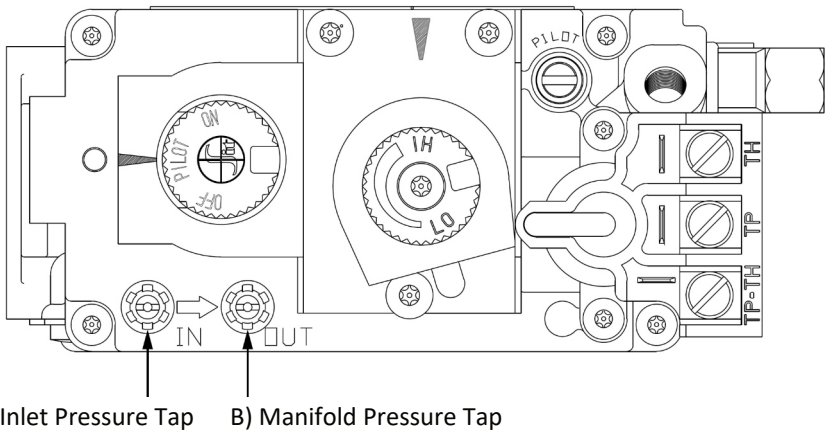

Figure 10.2 - Pressure Check Taps
- 1. Loosen the inlet (IN) pressure tap by turning screw counterclockwise. See (A) in Figure 10.2.
- 8. Disconnect hose and tighten the inlet (IN) pressure tap by turning screw clockwise. Screw should be snug. Do not over tighten.
- 9. Relight pilot and turn the gas control knob to ON. Reattach manometer to the inlet pressure tap (A) to verify the tap is completely sealed. Manometer should read no pressure.
- 1. Light pilot. Loosen manifold (OUT) pressure tap by turning screw counter-clockwise. See (B) in Figure 10.2.
- 6. Attach the manometer to the manifold pressure tap (B) to verify it is completely sealed. The manometer should read no pressure when pilot and burner are on.